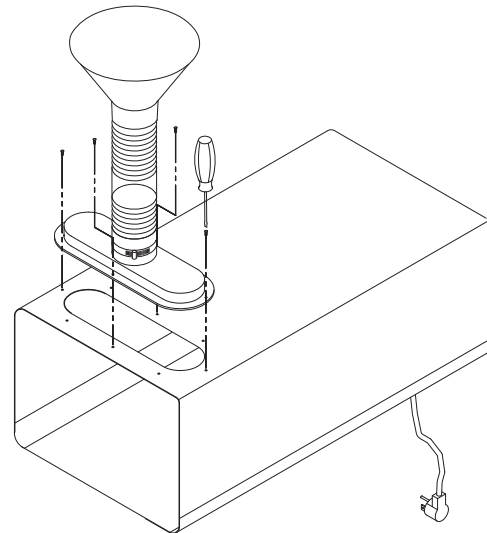

Fig. 2
3. Looking inside the unit, remove the two (2) filter spring retainers and pull out the foam prefilter, HEPA filter and charcoal/purasorb filter. REMOVE THE PLASTIC WRAP THAT PROTECTS THE CHARCOAL/PURASORB FILTER DURING STORAGE.
4. Remove the arm assembly from the second carton consisting of one or two flexible hoses and a black formed plastic manifold. Taped to the underside of the manifold is a clear bag containing four (4) black screws. Remove screws and discard the bag.
6. Using a slot head screw driver, secure the plastic manifold and hose assembly to the cabinet where the four (4) self tapping black screws obtained from step four (Fig. 2).